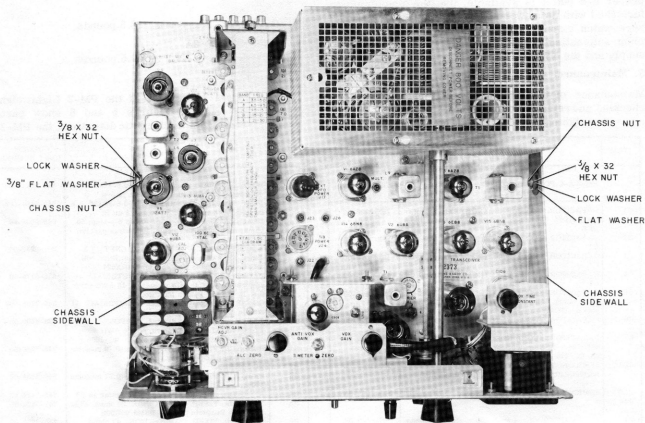

Figure 2. Installation of Chassis Nuts
2. Installation. (Refer to figures 2, 3, 4 and 7.)
- Install the two large chassis nuts in the holes of the KWM-2/2A chassis side walls as shown in figure 2 and figure 7.